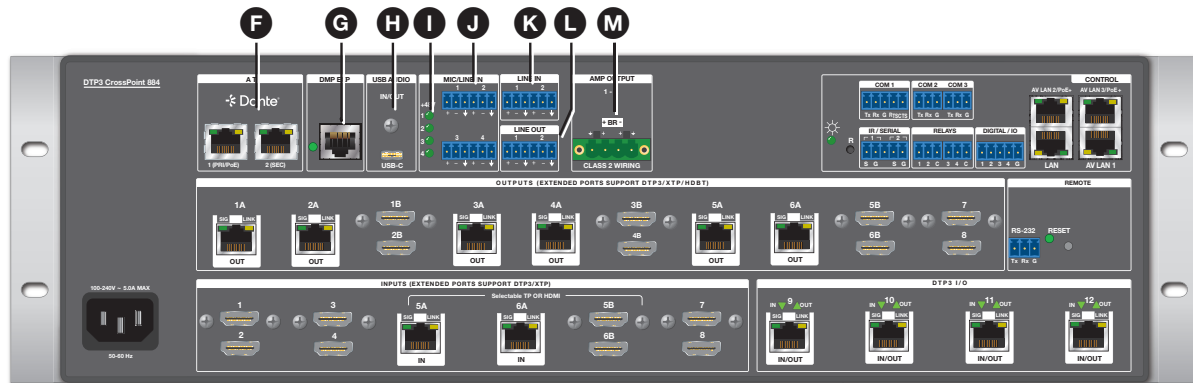
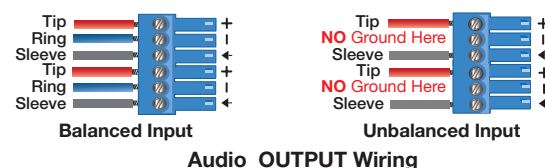

Figure 6. Audio Input and Output Connections and Indications
Figure 8. Audio Outputs Wiring
- L Line Out outputs** (see figure 6 on page 17) — Connect audio devices such as an audio amplifier or powered speakers to these 6-pole, 3.5 mm captive screw ports. These ports output unamplified, line level audio, whether it is tied from an analog input or de-embedded from an HDMI input (see figure 8 to wire the connectors).